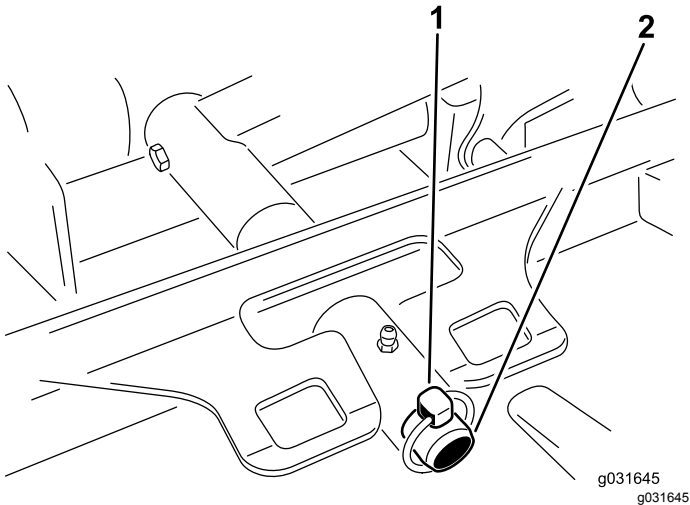

Figure 68
3. Remove the lynch pin or retaining nut securing the deck carrier frame to the lift-arm-pivot pin (Figure 68).
3. Slide the deck-carrier frame onto the lift-arm-pivot pin and secure it with the lynch pin or retaining nut (Figure 68).